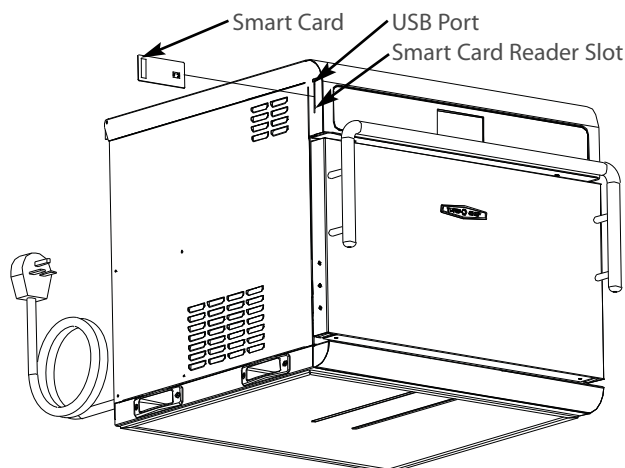

Figure 21: Inserting Smart Card/USB Device
1. Insert the smart card (Figure 21).
1. Insert the USB drive (Figure 21).
3. Insert the USB drive (Figure 21).
1. Insert the smart card (see Figure 21).